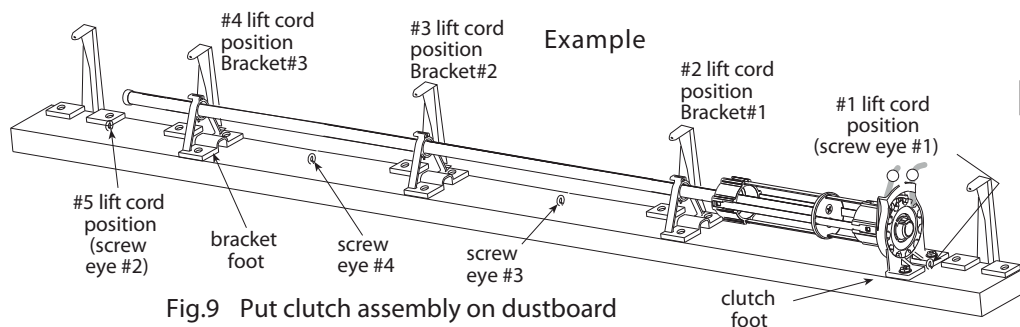
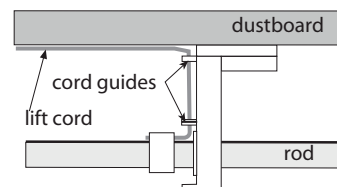

Fig.9 Put clutch assembly on dustboard
Fig.10 Attach edge lift cords for narrow shades
Step 7. All inner lift cords will use a bracket and outer cords use screw eyes. Slide one bracket for each inner lift cord with bracket feet (see Fig.9) pointing toward the clutch. In Fig.9, for example , the shade uses 3 interior lift cords and 2 edge lift cords. #2, 3 & 4 lift cords are inner lift cords. #1 (screw eye #1) and #5 (screw eye #2) lift cords are edge cords. Screw eyes #3 and #4 are then used to route edge cords (#1 & #5) to the rod unless there are only two lift cords on the shade. Since most shades have more than 2 lift cords, this is usually not an issue. When only 2 lift cords are used on a shade, two brackets are used to route the edge lift cords to the rod (See section titled For Narrow Shades on page 4, and Fig.10). Remember 5 lbs maximum load per lift cords.
Step 9. Position clutch/rod/brackets assembly on dustboard $\frac{1}{4}$ ” from screw eye #1 or if no edge lift cords are used, position 2” from edge of dustboard. Use a straight edge rule to make sure the clutch and the brackets are lined up properly, and the rod is centered on the dustboard. Temporarily screw clutch to the dustboard until ready to attach the screw eyes. Starting with lift cord position #2, slide the bracket along the rod to align the lift cord guides with the 2nd column of lift cord rings on the shade (see Fig.9 and Fig.10). Mark the bracket screw hole locations. Screw eyes will be positioned midway between brackets 1 & 2 and 2 & 3. Mark all remaining brackets and screw eyes in order of lift cord position. Remove clutch/rod/brackets assembly and attach screw eyes to dustboard. Screw clutch to dustboard with $\frac{3}{4}$ ” x #6 screws. Screw the brackets and shade stops to dustboard. Loosen screws on all brackets $\frac{1}{4}$ turn but not the clutch. Test to ensure rod moves freely on spears and through brackets. This system will not work properly if the rod does not move freely. If it does not, the problem will be related to improper alignment between brackets or clutch.